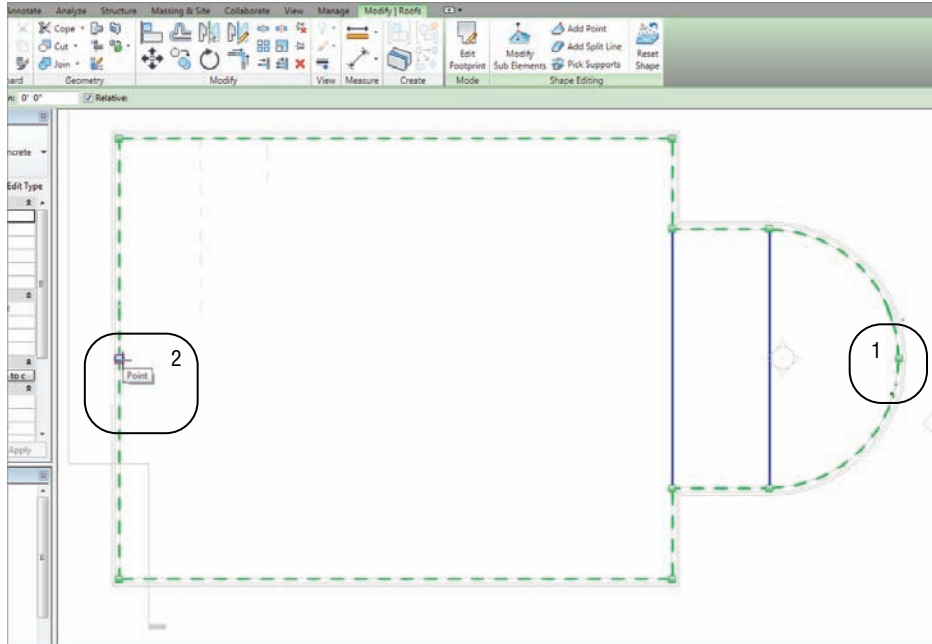

FIGURE 7.8 Click the Add Point button and add the two points.
7. Click the Add Point button, as shown in Figure 7.8.
8. Add two points at the midpoints marked as 1 and 2 in Figure 7.8.